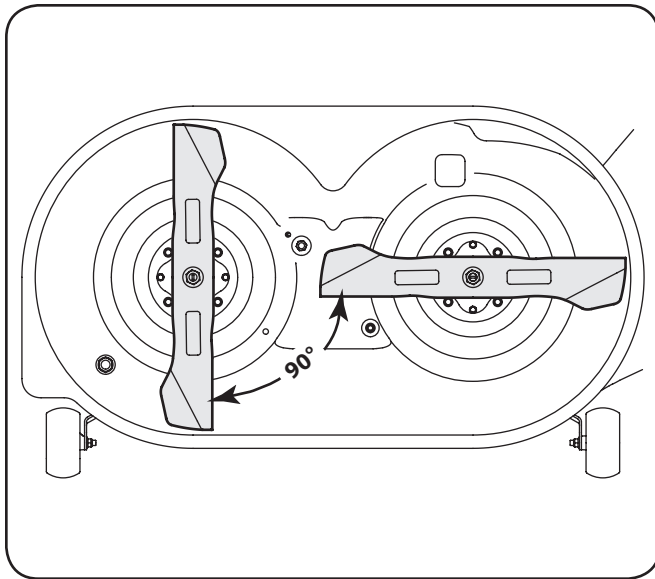

Figure 7-7
15. If the timing belt was installed correctly and the timing arrows were positioned as shown in Fig. 7-6, the cutting blades should be in the position shown in Fig. 7-7.